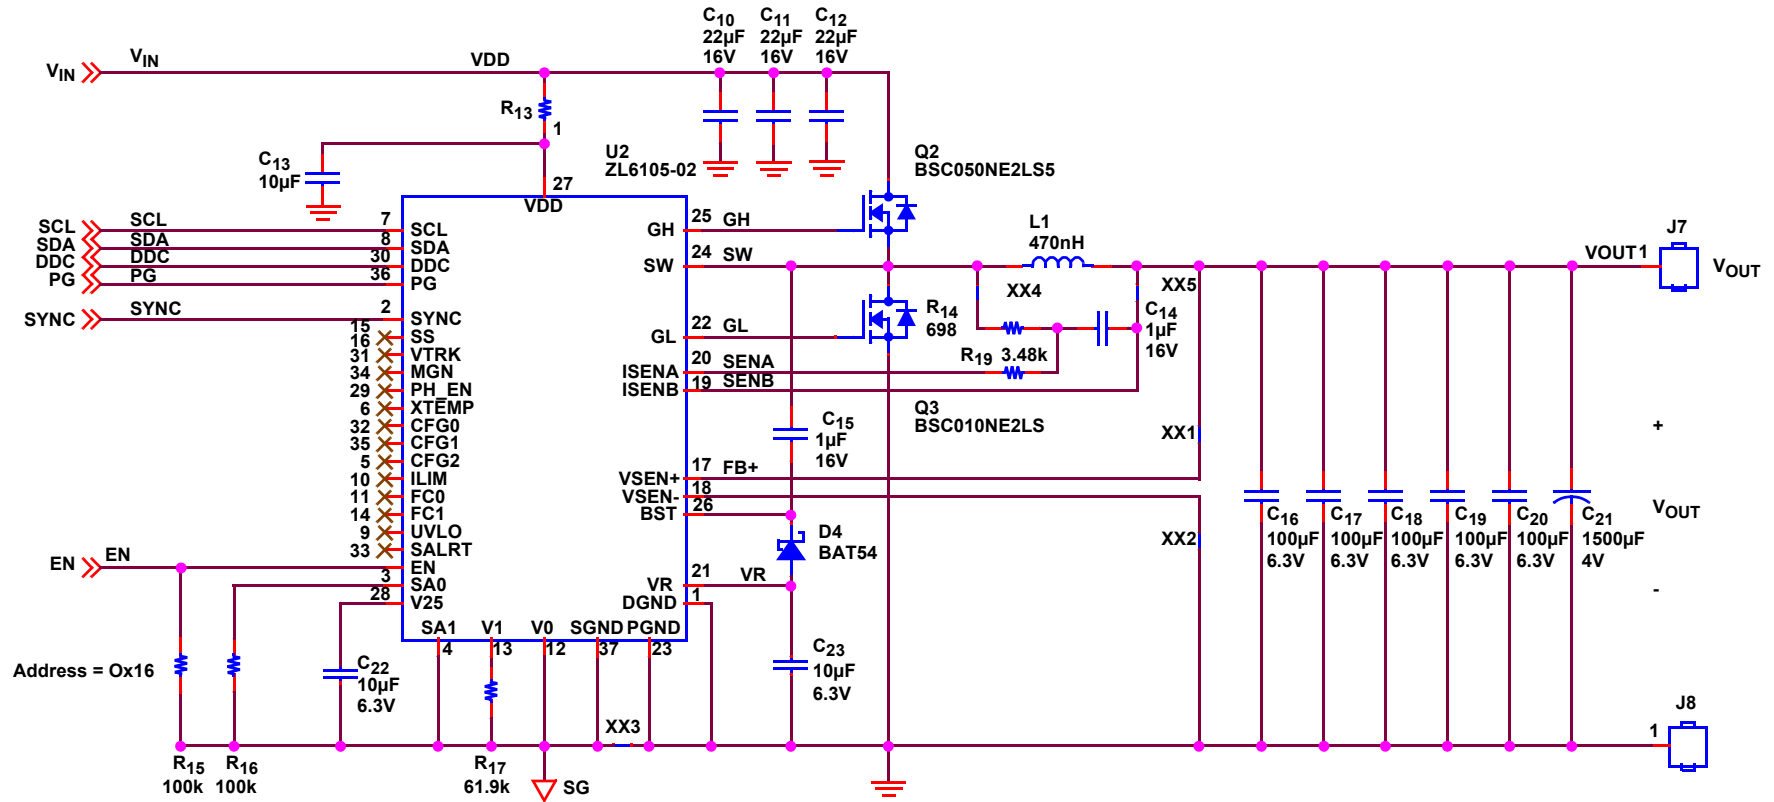

FIGURE 4. ZL6105-1CH-DEMO01Z DEMO BOARD
The ZL6105-1CH-DEMO1Z Demonstration Board schematics are shown in Figures 4 and 5. The hardware enable function is controlled by a toggle switch. The Power-Good (PG) LED indicates that V_{OUT} is regulating. The right angle headers at opposite ends of the board are for connecting a USB to SMBus control board or for daisy chaining of multiple Intersil evaluation boards.